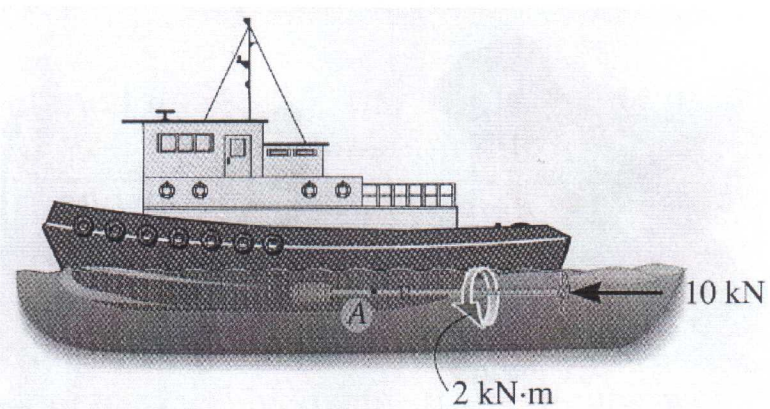

Figure 15.
(15) The propeller shaft of the tugboat, shown in Figure 15, is subjected to the compressive force and torque shown. If the shaft has an inner diameter of 100 mm and an outer diameter of 150 mm, determine